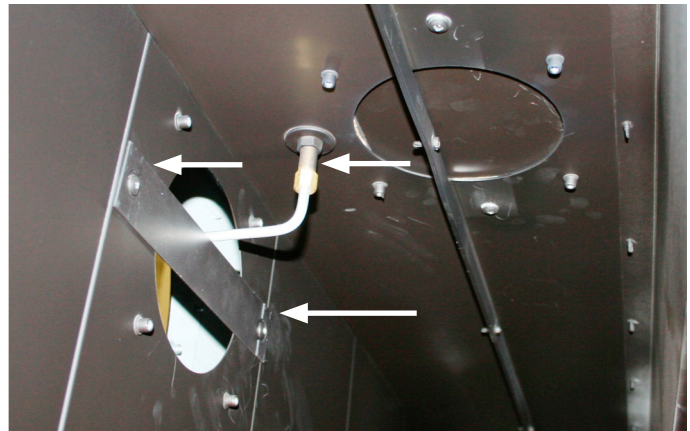

Figure 9a. Removal of Top Vent air baffle and pressure sensing tube.
3. Position the supplied Rear Vent pressure sensing tube as shown in Figure 9a. Hand tighten the compression nut by hand and then a half-turn with a wrench.